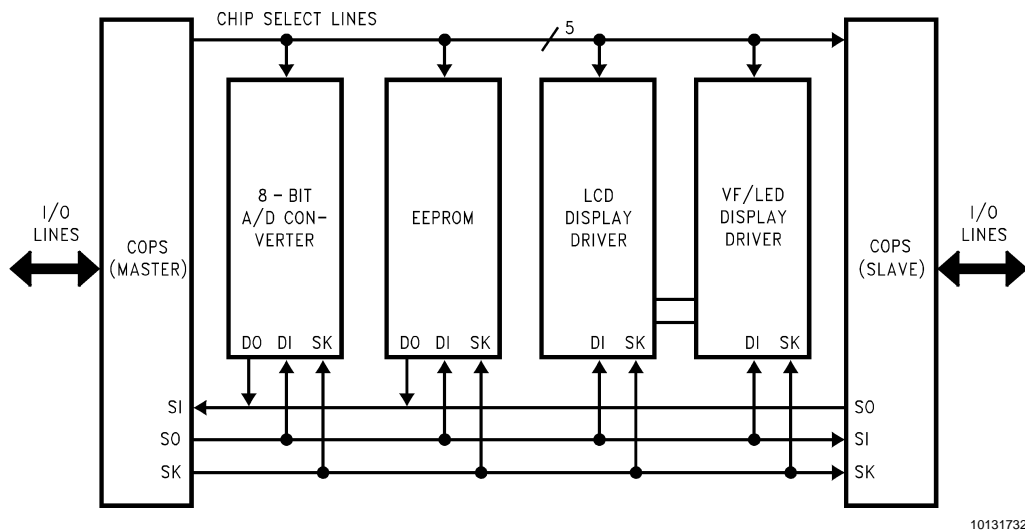

FIGURE 28. MICROWIRE/PLUS Application
MICROWIRE/PLUS is a serial SPI compatible synchronous communications interface. The MICROWIRE/PLUS capability enables the device to interface with MICROWIRE/PLUS or SPI peripherals (i.e. A/D converters, display drivers, EEPROMs etc.) and with other microcontrollers which support the MICROWIRE/PLUS or SPI interface. It consists of an 8-bit serial shift register (SIO) with serial data input (SI), serial data output (SO) and serial shift clock (SK). Figure 28 shows a block diagram of the MICROWIRE/PLUS logic.
enabled, an interrupt is generated when eight data bits have been shifted. The device may enter the MICROWIRE/PLUS mode either as a Master or as a Slave. *Figure 28* shows how two microcontroller devices and several peripherals may be interconnected using the MICROWIRE/PLUS arrangements.